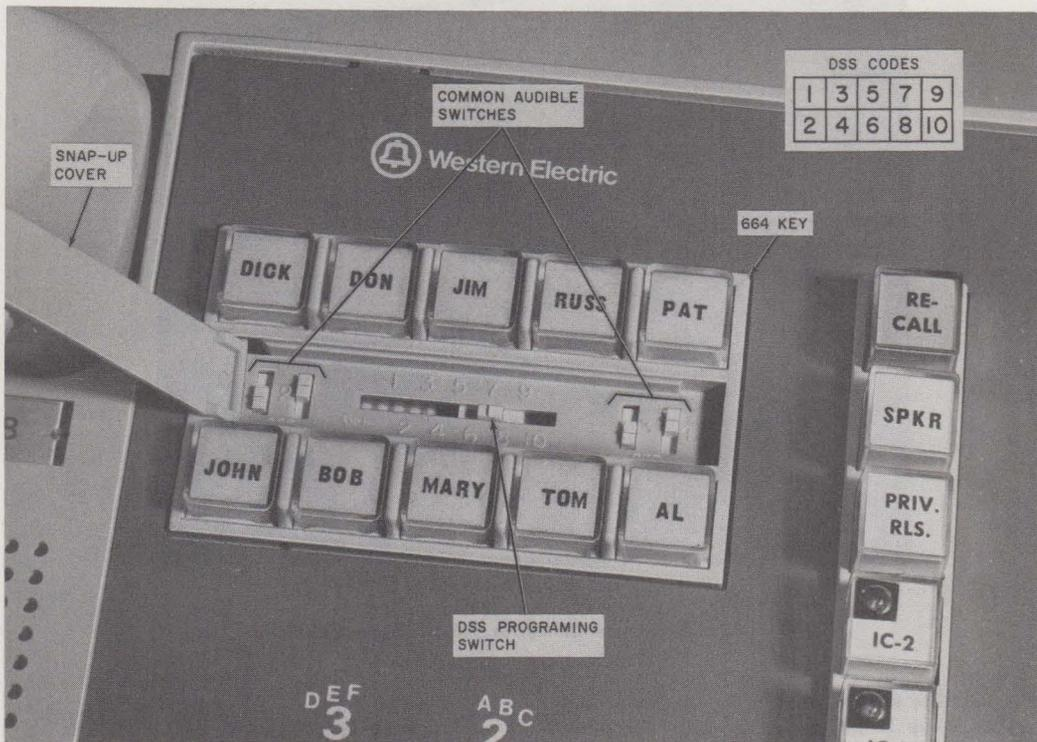

Fig. 7—DSS Key
3.07 The DSS programming switch and common audible switches (Fig. 7) must be set as required at each station as follows:
For example, Fig. 7 shows the station designated as DSS code 7.